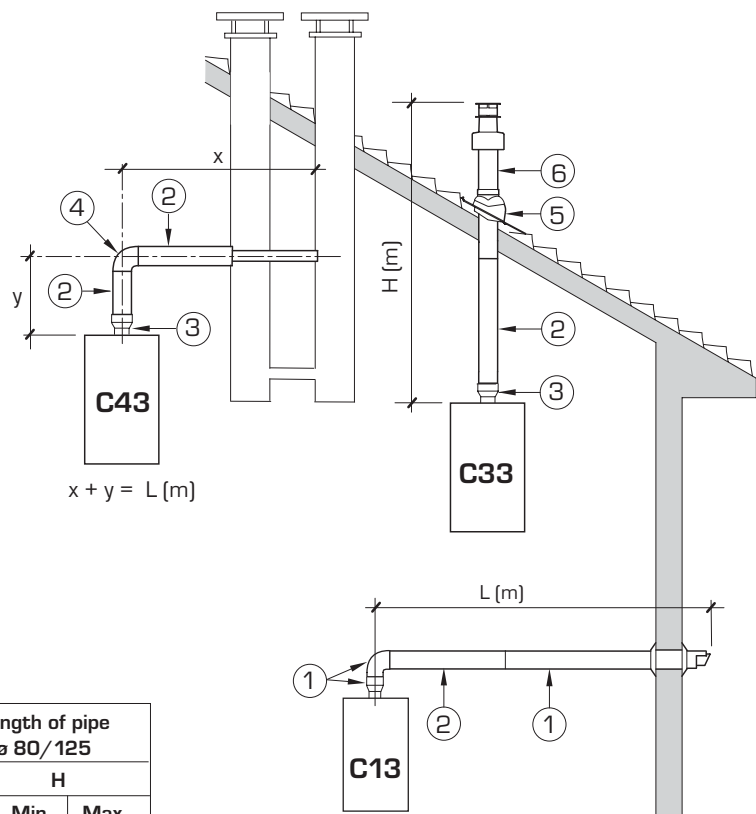

Fig. 6
2.5 INSTALLATION OF COAXIAL DUCT ø 60/100 - ø 80/125 (fig. 6)
The diagrams of fig. 6 illustrate some examples of different types of discharge modalities allowed and the maximum lengths that can be reached.